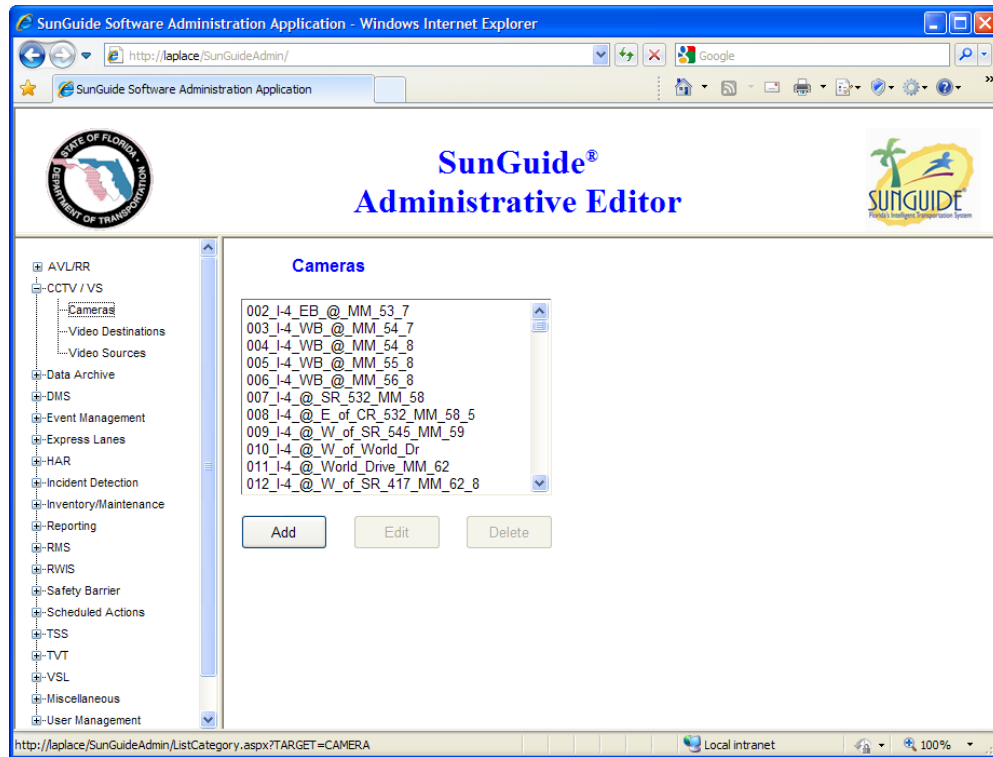

Figure 4-33 – Camera List
The Camera Editor (see Figure 4-33) enables the system administrator to manipulate camera (i.e., video source) data in the database. This editor is opened by expanding the Closed Circuit Television (CCTV)/Video Switch (VS) element of the Editor List Frame, then clicking on **Cameras**. The Administrative Editor will query the database and retrieve a list of cameras currently in the database.